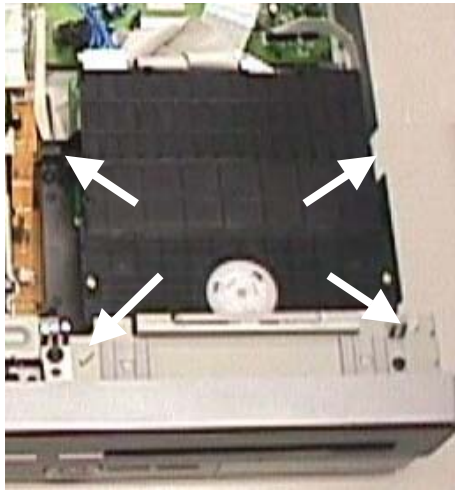

Figure 4 - Basic Engine mounting screws
- 1) Remove 4 screws to detach the Basic Engine 1005 from its Holder 180 as shown in figure 4.